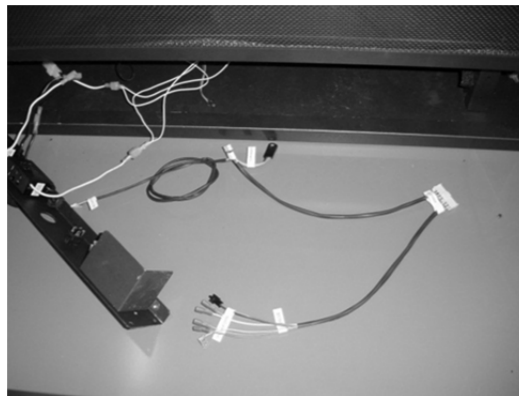

Figure 18
- 11 Place the GreenSmart wiring harness in front of the fireplace, noting the position of each connector (see .Figure 18).